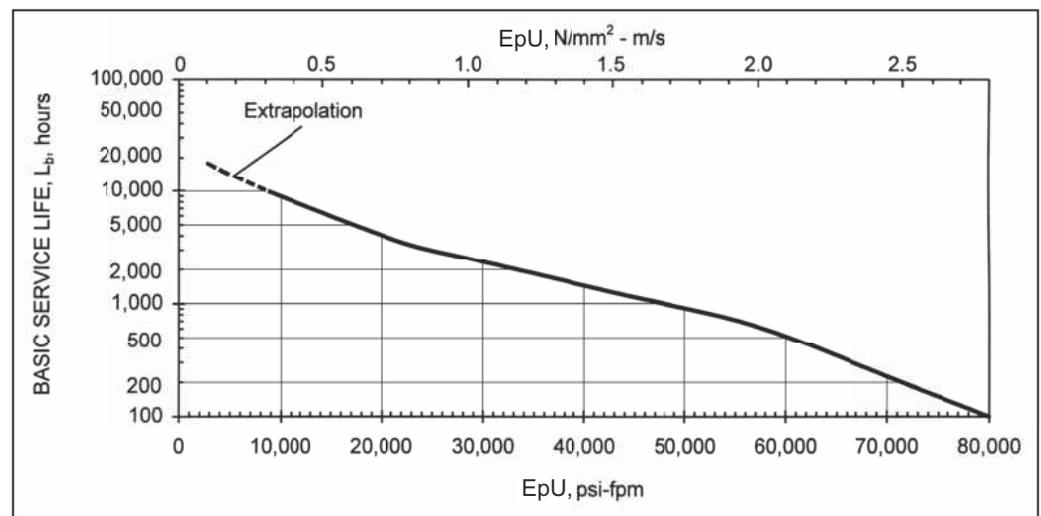

Figure 5-4. DX Basic Service Life,  $L_b$ , vs. EpU
Figure 5-4 shows the basic service life,  $L_b$ , in hours assuming normal room temperature conditions, normal running clearances, and good heat dissipation of a well-proportioned bearing operating against low carbon steel with a surface finish of 16 microinches (0.4 micrometers). The following graphs and tables describe major factors affecting DX bearing life.
The calculated EpU factor, as described on page 5-4, is used to determine the basic DX bearing service life  $L_b$ . The estimated bearing life,  $L_{DX}$ , is calculated by applying various service factors to the basic service life  $L_b$ . Refer to Figure 5-4 and read the basic service life based on the calculated EpU.
- $L_b$  = DX basic service life, hours, see Figure 5-4
- $L_b$  = sleeve bearing basic service life, Figure 5-4